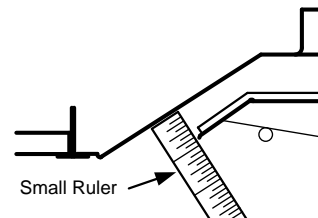

Fig. 3 Blade Opening
11. Measure the damper blade opening from the edge of the housing perpendicular to the housing (see Fig. 3 Blade Opening).